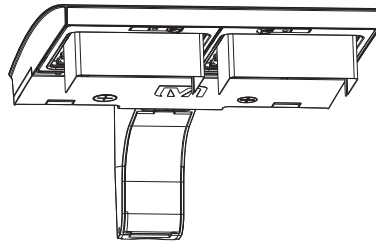

FIG. 2
2. Using the supplied machine screws, secure the visor(s) to the fixture by tightening the screws. (See Fig. 2)